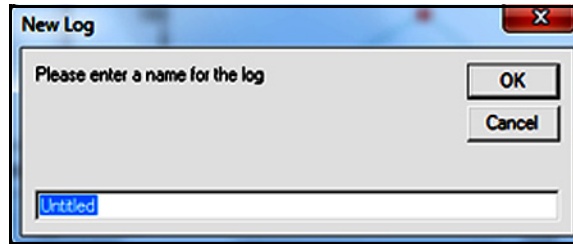

Figure 66: The Save As Dialog Box
- Click the “Save As” option to save the graphed data as a log file. When the dialog box in Figure 66 below opens, enter a name for the log file and click the [OK] button to save the file as: